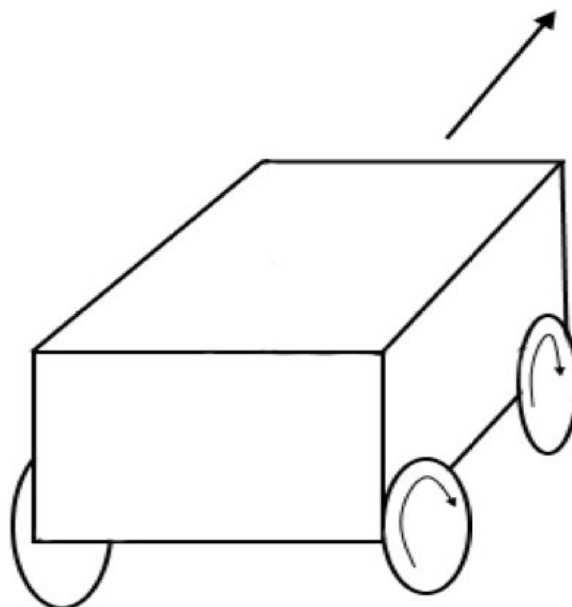

Figure 1.4 : The Mini rover has 4 wheels that are able to move in both directions
- The mini rover will have 4 motors, 2 on each side of a rectangular body. Each motor **must be able to spin forward and backwards**. See *Figure 1.4*.